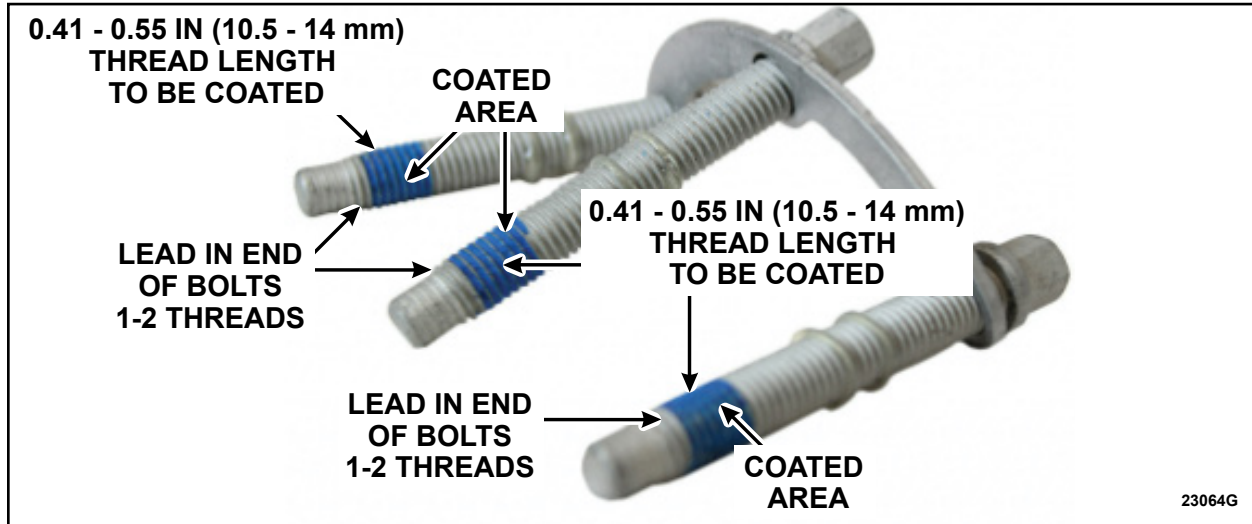

FIGURE 7
8. Clean threads of the original driveshaft flange to pinion flange bolts with a wire brush and coat the threads with Red TA-26, Red Loctite 263 or equivalent thread locker. See Figure 7.